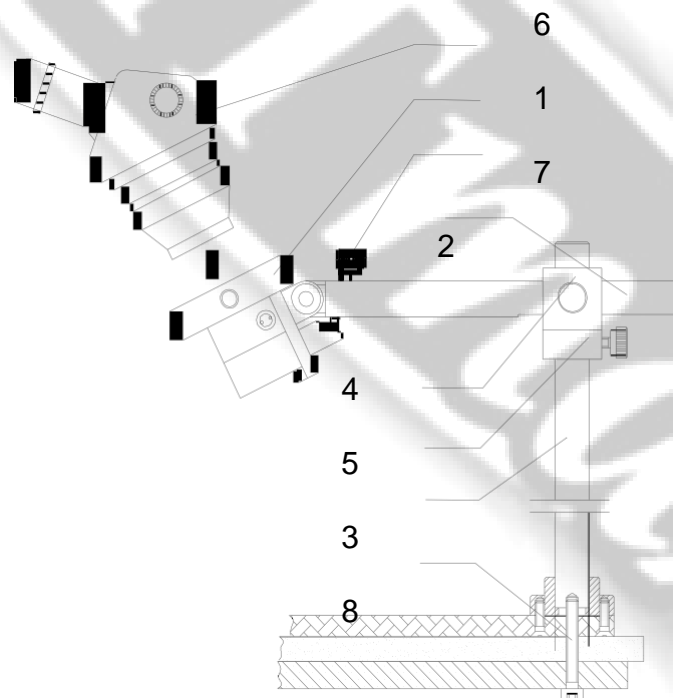

Fig.12 Stereo-microscope Installation Drawing
As Fig.12 shows, the Microscope Stand consists of the microscope bracket (1), cross arm (2), Column (3), support block (4) and bear ring (5) etc. It functions as the support for the microscope (6) and its adjustment of up and down, front and back and angle directions. The zoom image hand wheel design of the microscope bracket is a single hand wheel structure design, which leaves a large operating area for welding work. The single hand wheel, which is